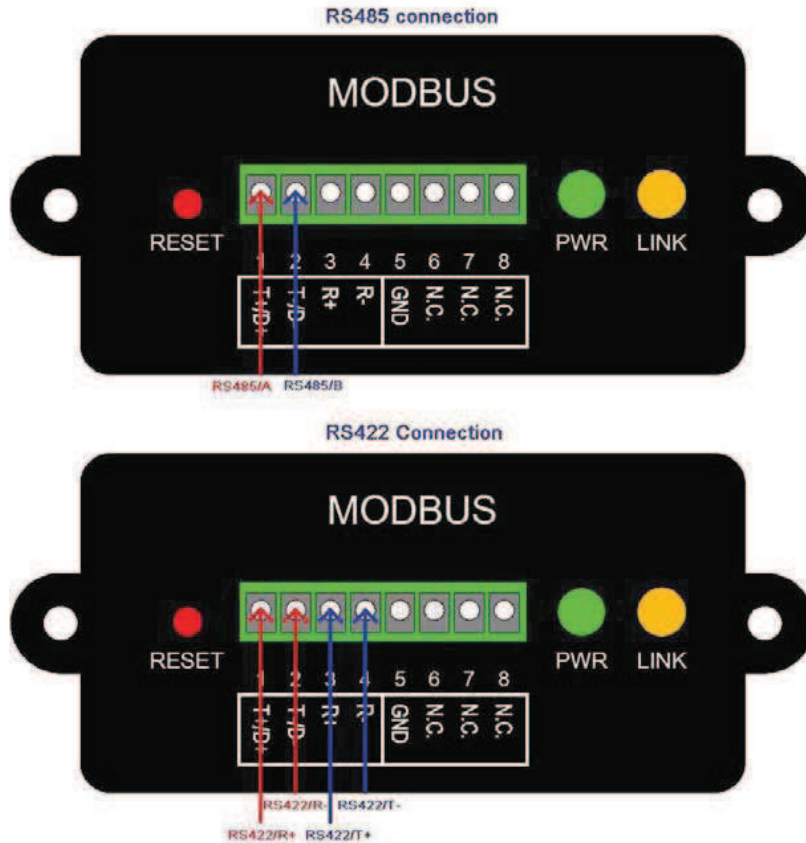

Fig.1: RS 485/RS422 connections
- ◆ Connect the RS485/RS422 line to the connector on front panel, as show on Fig 1.